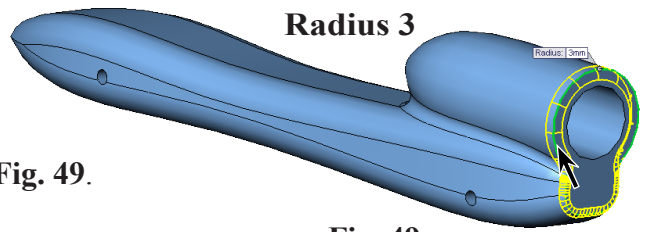

Fig. 49
Step 5. Rotate view to view **back of body**, hold down middle mouse button (wheel) and drag to rotate view, **Fig. 49**
click the **back outside edge** of body, **Fig. 49**.